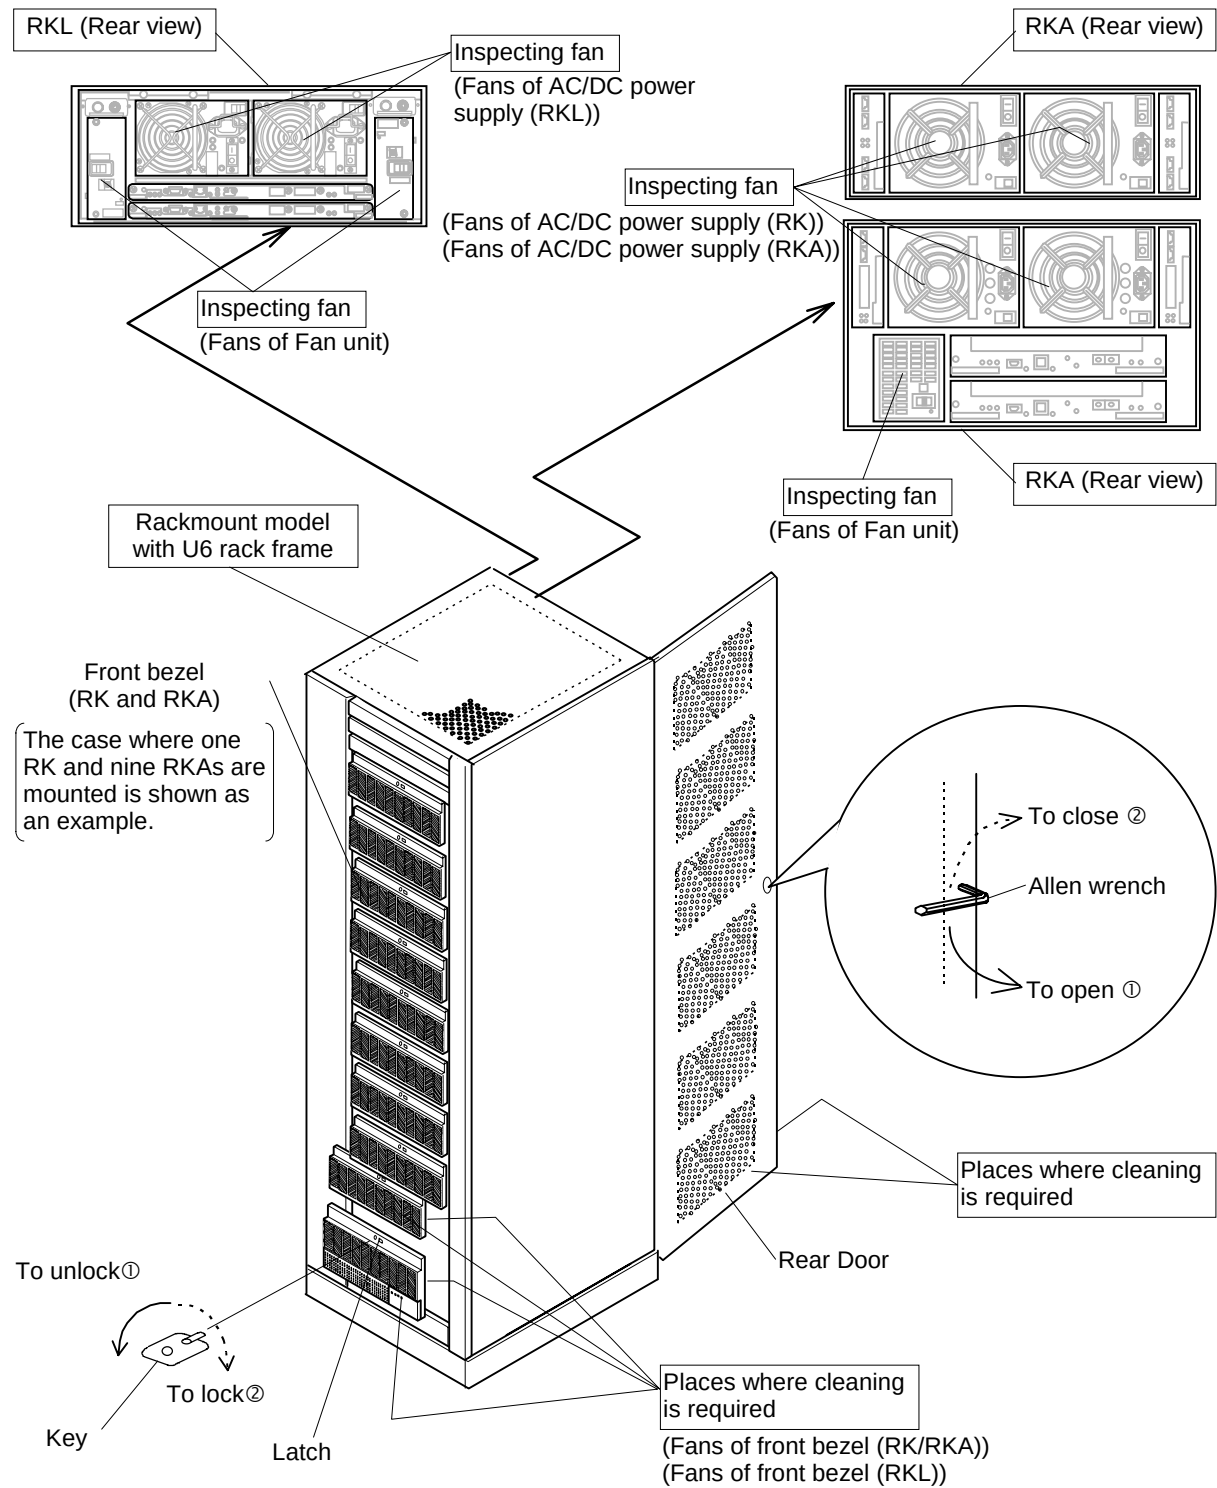

Figure 6.3.1 Inspecting and Cleaning Rackmount Mode with U6 Rack Frame
- (1) Open the rear door. To open it, insert an Allen wrench into the keyhole on the door, turn it in the direction shown by the arrow ① (→), and open the door leaving the wrench as it is. (See Figure 6.3.1.)
- (2) Make sure that the fan of the AC/DC power supply in the rear of the mounted unit are rotating.
- (3) Make sure that the fans of the Fan unit in the rear of the mounted unit are rotating.
- (4) Fit the Allen wrench in the key socket on the door turn it in the direction shown by the arrow ① (→), and close the door leaving the wrench as it is.